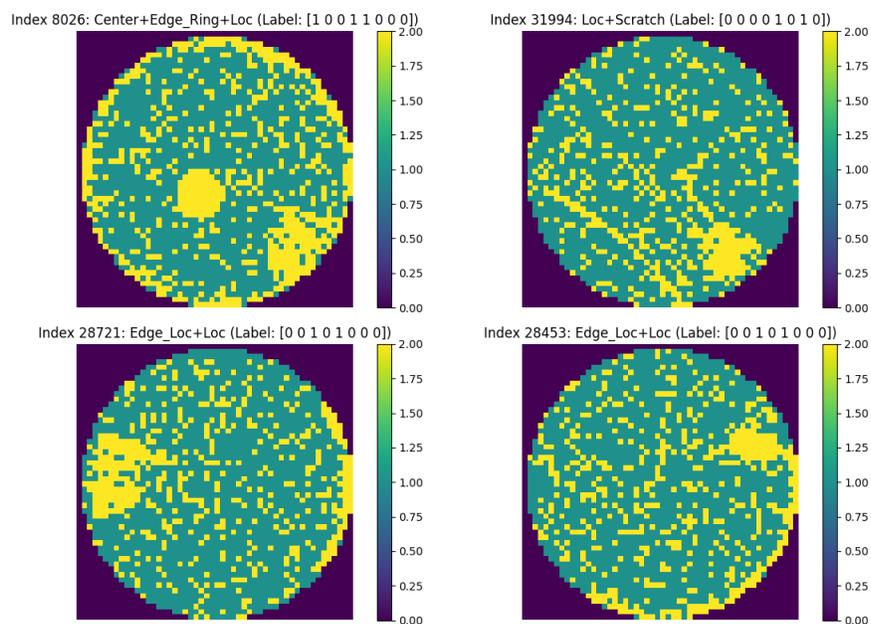

Figure 1: Examples of raw input Wafer Maps from the dataset.
- List of Figures 1
- Figure 1: Examples of raw input Wafer Maps from the dataset. (Source: User Provided / Manual)
Identifying defect patterns on semiconductor wafer maps (examples shown in Figure 1) is crucial for quickly finding the root causes of production issues and improving yield. This project aimed to build an Artificial Intelligence (AI) model capable of automatically classifying various defect patterns, including complex mixed types.
We used the publicly available MixedWM38 dataset, containing over 38,000 wafer map images (52x52 pixels) derived from electrical test data. Figure 1 provides visual examples of the typical raw wafer map data used as input to the model.